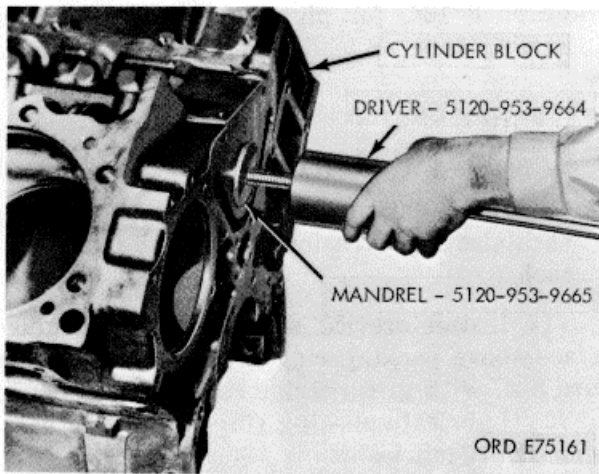

Figure 3-1. Camshaft bushing removal.
b. *Camshaft Bushings* (fig. 3-1).